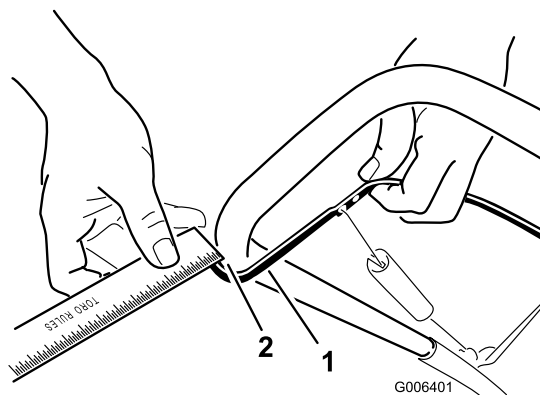

Figure 25
Move the control bar back toward the handle to remove the slack in the control cable (Figure 25).
Note: Ensure that a 2 mm to 3 mm (1/16-inch to 1/8-inch) gap exists between the control bar and the handle (Figure 25).
- Move the Z-fitting to a higher or lower hole on the adjuster link as needed to obtain the 1/16-inch to 1/8-inch (2 mm to 3 mm) gap between the control bar and the handle (Figure 25).